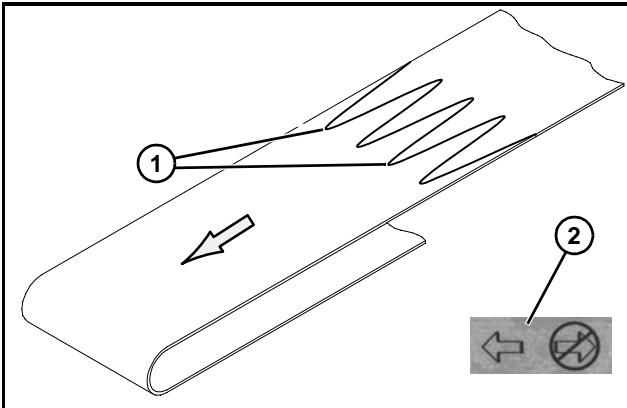

Figure 64
2. Orient belt so splice leading fingers (Figure 64, item 1) point in the direction of belt travel as identified by the conveyor directional label (Figure 64, item 2).